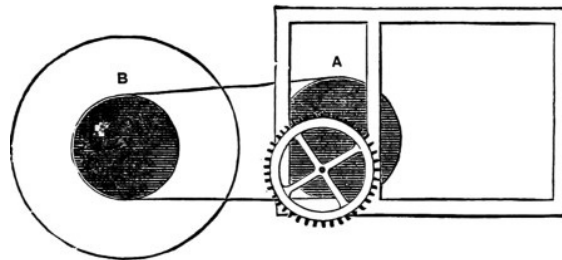

Fig. 10.
Prepare the works as for the yacht model, and also insert a pulley (A), as shown in Figs. 10 and 5. This is connected with another pulley (B, Fig. 10), which is fixed to a block by a screw that is countersunk below the face of it, and to which is fastened by a small screw two wires working freely and passing one to the wire from the left-hand figure, and the other to the cross-piece of the wire from the right-hand one, and connected with them by the ends being bent into